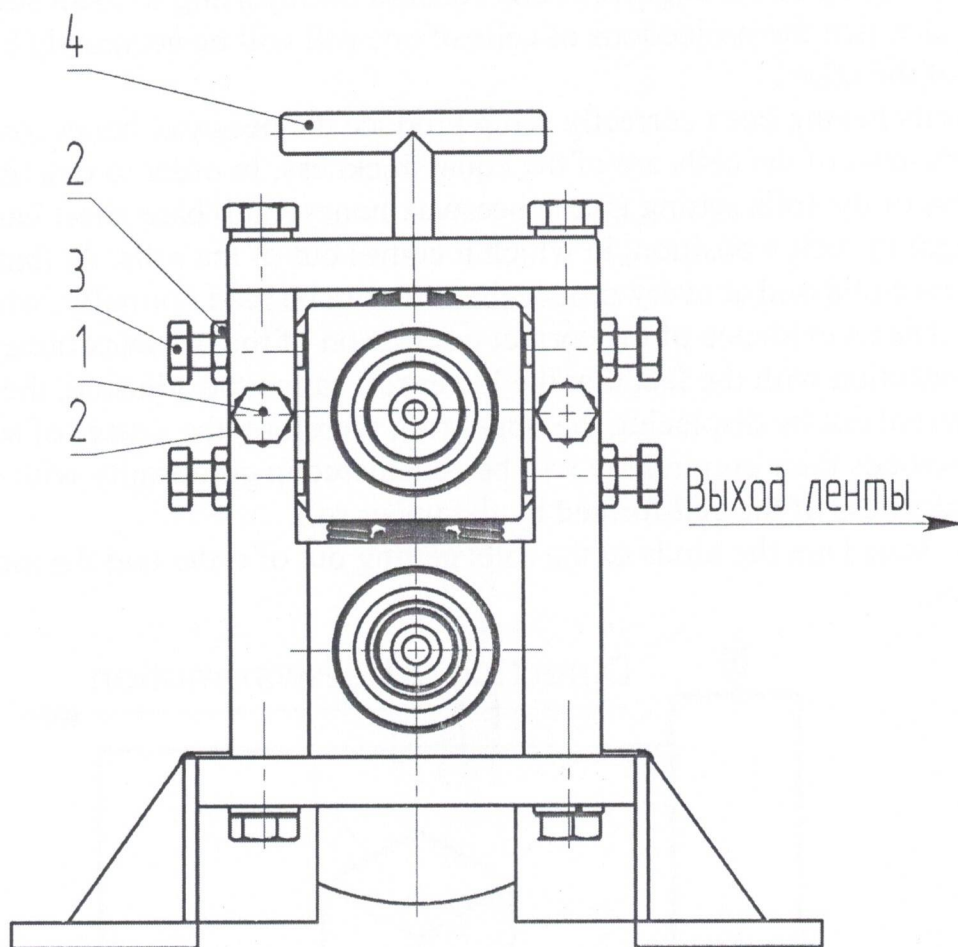

Fig. 3.
All parts, by means of which upper roll is adjusted relatively to the lower roll are shown in Fig. 3.
That is the cause of changing the thickness of the first cell rhomb as compared with the rest of two. The setting up of the rolls is carried out by the axial displacement of the upper roll by means of the longitudinal screws 1 installed in but ends of the rolls stand (Fig. 3).
The setting up is carried out by displacement of rear end of the upper roll in the horizontal plane, by means of lateral adjusting screws 3 (Fig. 3).
4.4. The adjustment of the beeswax honeycomb base sheet thickness is carried out by the pressing screws 4 (Fig 3).